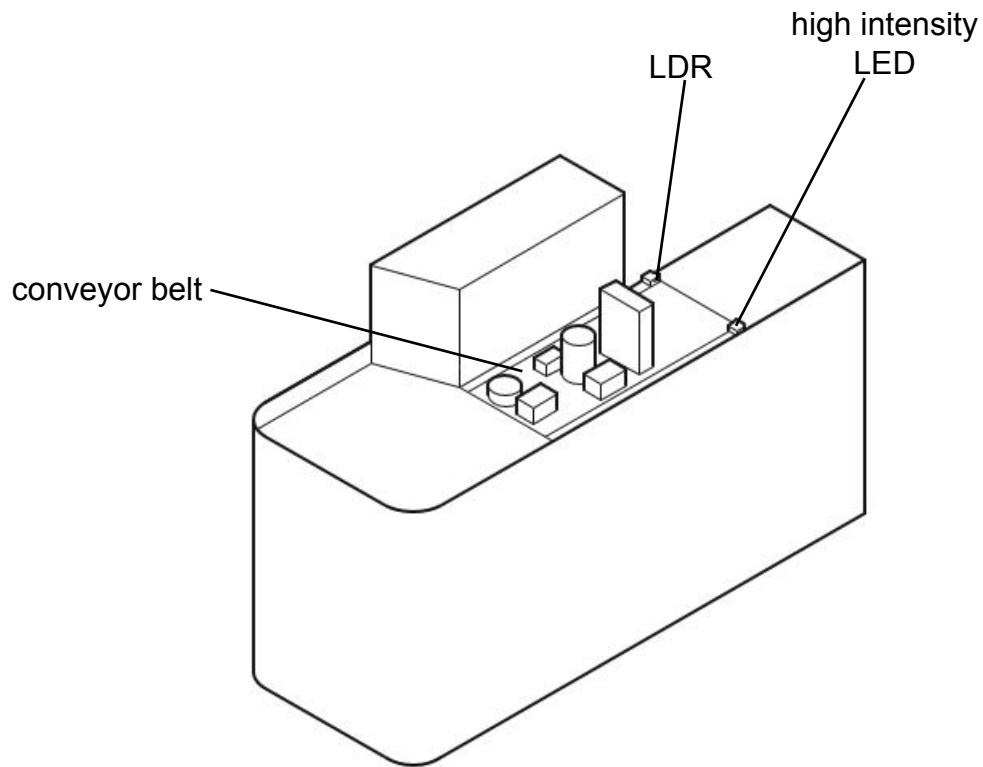

Fig. 32
- (k) Fig. 32 shows a conveyor belt in a supermarket checkout area. The belt keeps going until an item of shopping blocks the path between the light source and an LDR on the other side of the conveyor belt.